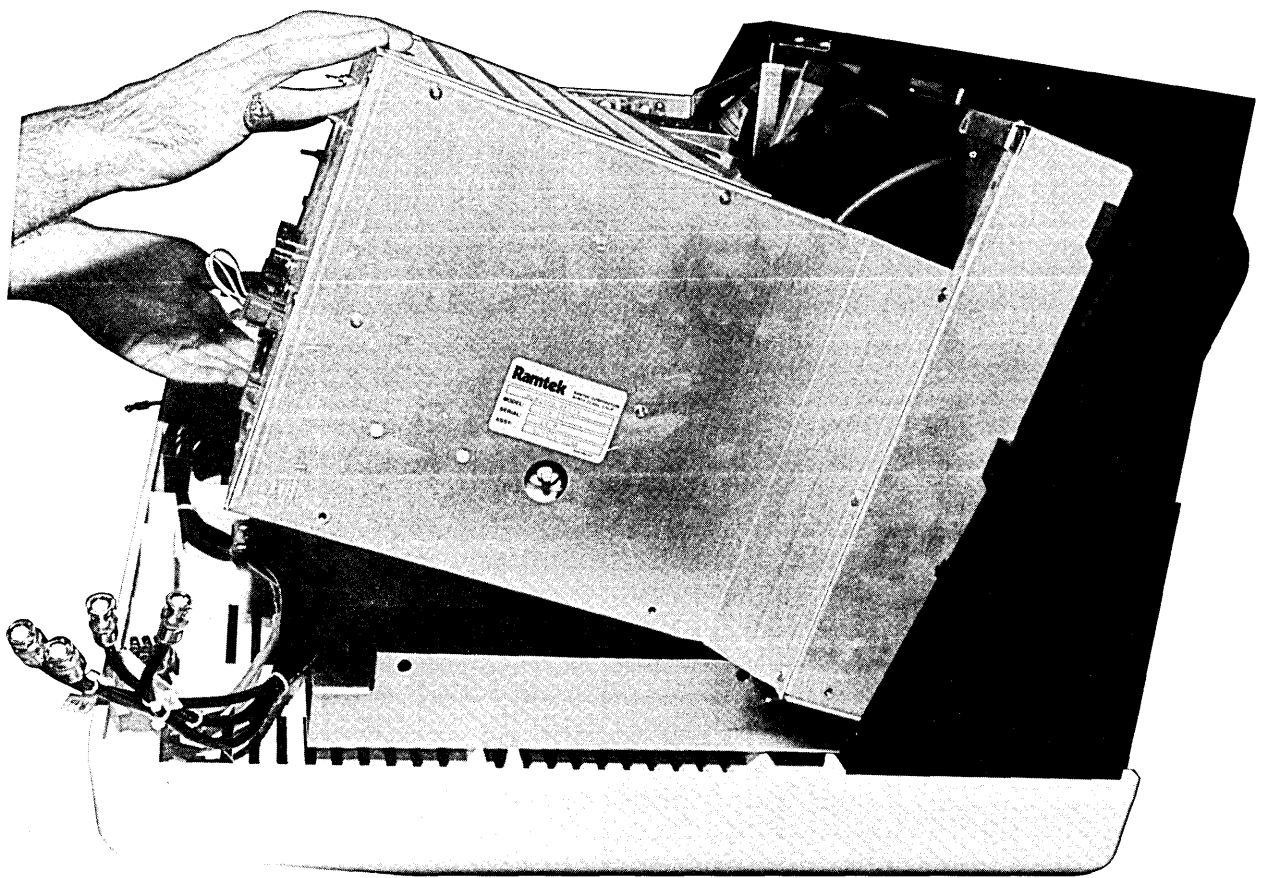

Figure 5-33. Removing the Monitor
6. See figure 5-33. Lift and pull back on the chassis until it is clear of the base bracketry, on the bottom, and the outer frame surrounding the display faces, at the right in the figure.